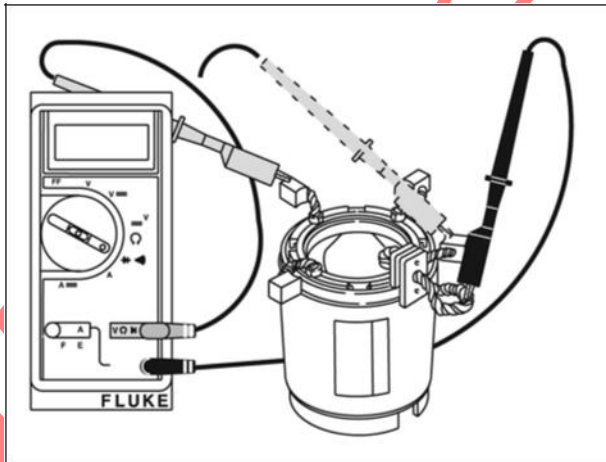

Figure 64
1. Cut off brush lead wires at terminals (Figure 64).